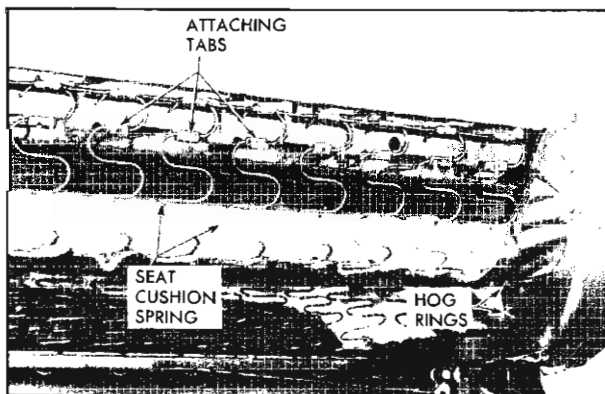

Fig. 17-2 Front Seat Cushion Spring Attachment
3. Raise trim and remove cardboard breakover foundation to expose seat cushion spring attachment to seat back frame along rear of seat and hog rings securing ends of seat back trim to seat bottom frame (Fig. 17-2).
5. Bend open tabs securing seat cushion spring assembly to seat back frame and carefully disengage springs from tabs. (Fig. 17-2)